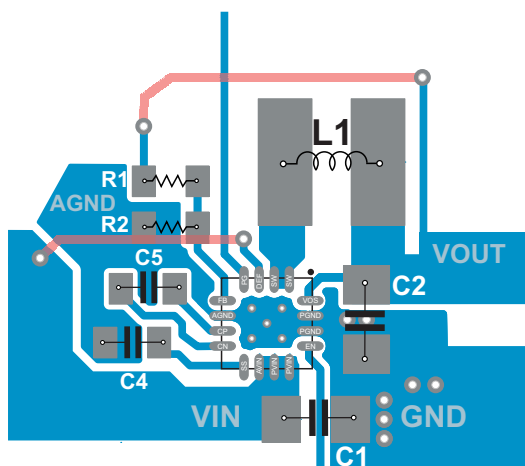

图 25. Recommended Layout
- See 图 25 and the evaluation module User Guide (SLVU670) for an example of component placement, routing and thermal design.